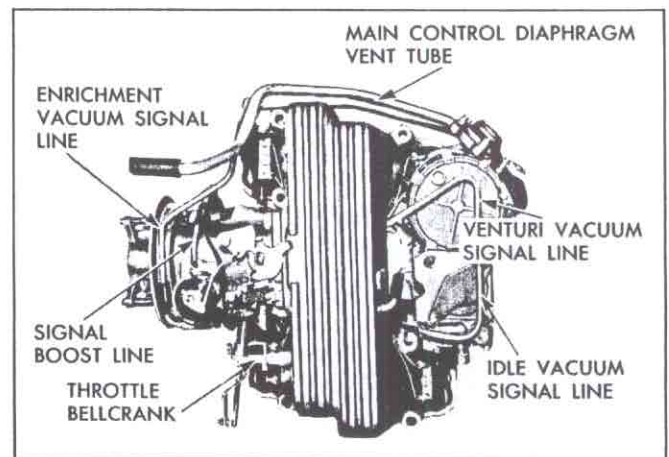

Fig. 121—Signal and Fuel Meter Vent Lines
### Signal, Fuel and Vent Line (figs. 121 and 122)
1. Remove enrichment vacuum signal line by disconnecting the rubber sleeve at the cold enrichment housing on the air meter and at the enrichment diaphragm on the fuel meter (fig. 121).
6. Remove the signal boost line (fig. 121).